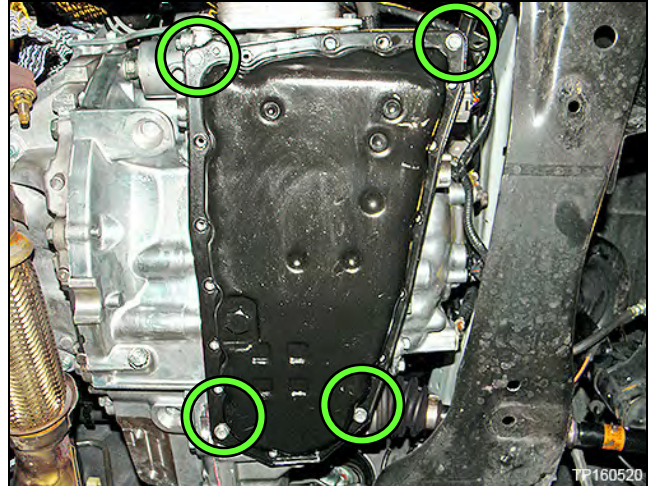

Figure 1A
1. Temporarily install the oil pan gasket and oil pan with four oil pan bolts to corners of the oil pan, hand tight (Figure 1A).